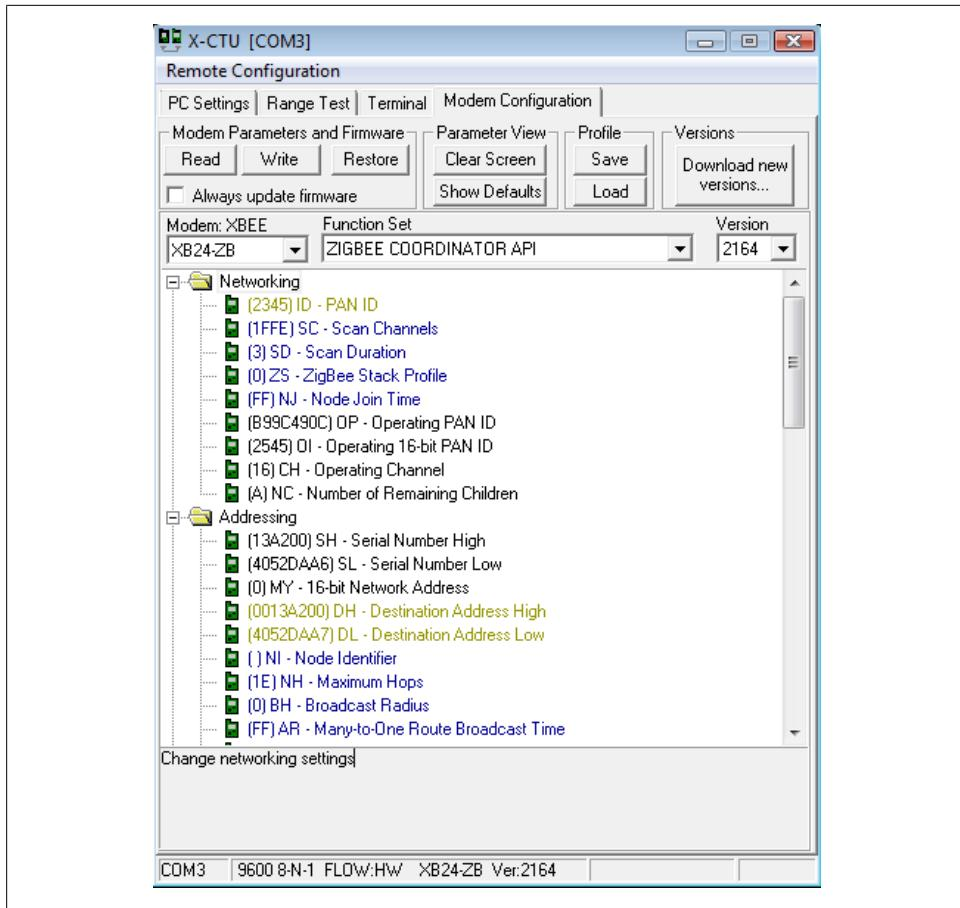

Figure 4-4. Setting ID, DH, and DL in X-CTU
- Use X-CTU (Figure 4-4) to set ATDH to the high part of your *router* radio's address (always 0013A200 for XBee) and ATDL to the remainder of your *router* radio's address (the unique part of the number you noted above).